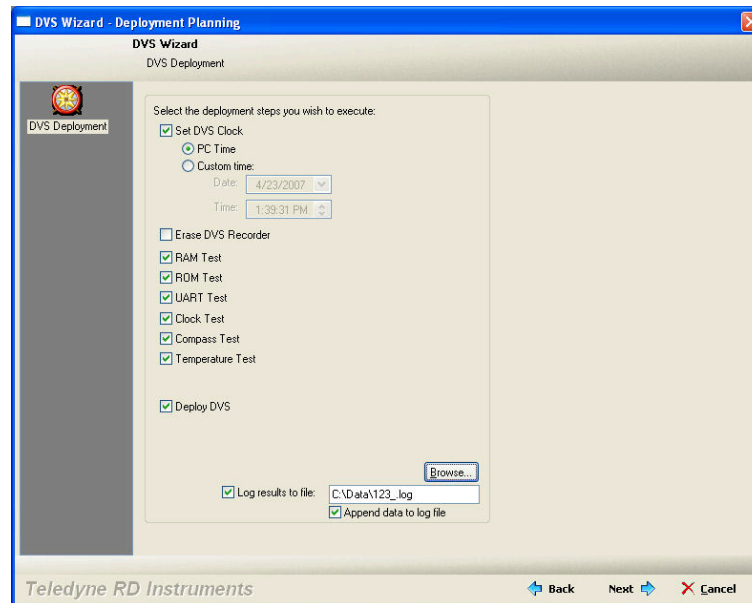

Figure 12. DVS Deployment Screen
- c. Check the **Continue to deployment** checkbox and click **Next** to reach the **DVS Deployment** screen shown in Figure 12.